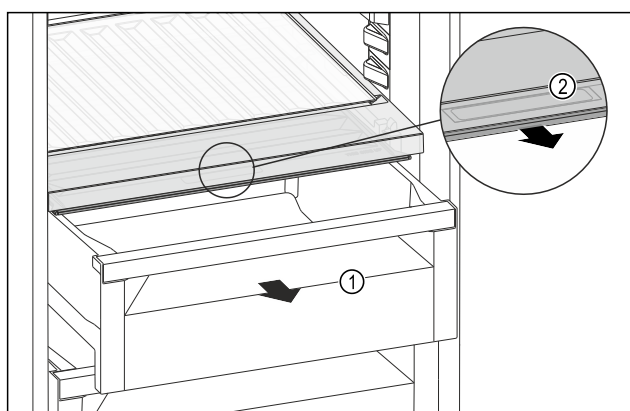

Fig. 228
- Pull out the drawer Fig. 228 (1).